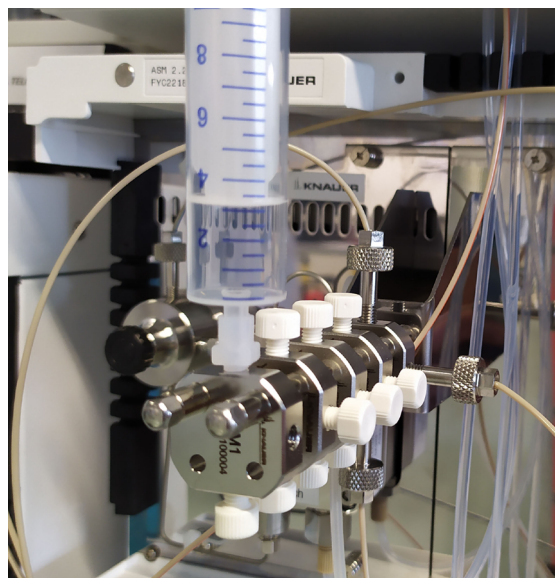

Fig. 19: Manual cleaning the ethanol/lipid pathway
2. Connect the luer adapter and the syringe on the lipid/ethanolic port of the IJM and close the API port with a blind plug (Fig. 19). Use a beaker to collect the waste below the open port.